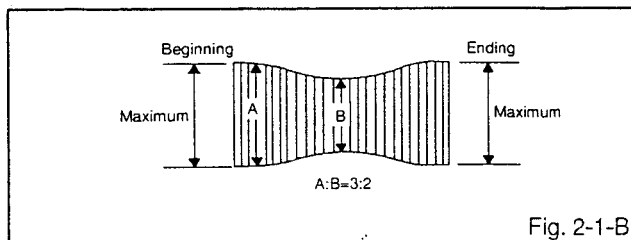

Fig. 2-1-B
3. Trigger with SW pulse and observe the envelope. (Refer to Fig. 2-1-A)
5. Press and hold the tracking control button and (at the point that the envelope waveform starts to reduce) adjust the envelope so that the A : B ratio is better than 3 : 2. (Refer to Fig. 2-1-B)
6. Connect CH-1 on the oscilloscope to TP4101 and CH-2 to TP4102. Playback the VHS alignment tape (JG001E). Set the tracking to manual center. Adjust X with the screw driver for X (JG153) as the Fig. 2-1-A and Fig. 2-1-B.